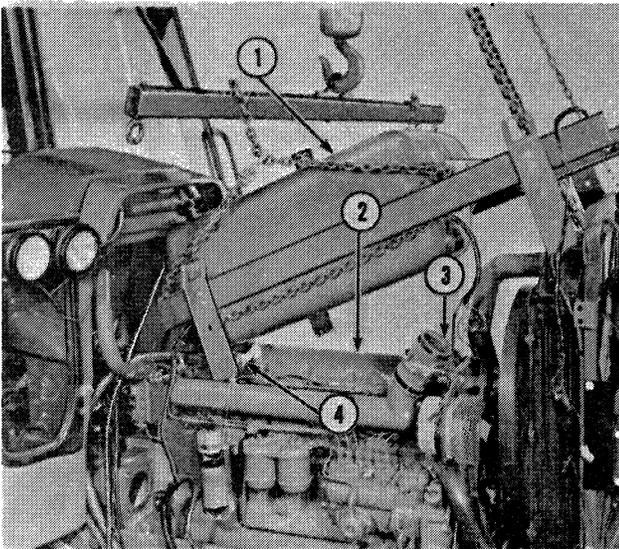

Figure 6
7. Using a sling, remove the fuel tank and brackets from the tractor, Figure 6.